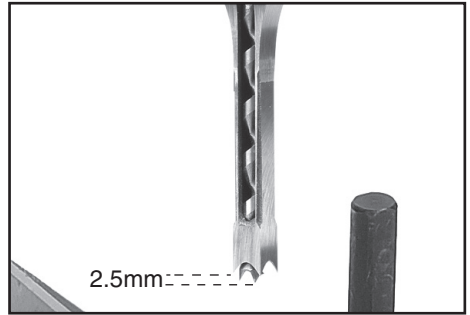

FIG. 11
**Note:** It is important the bottom point of the bit protrudes 2.5mm below the bottom edge of the chisel (Fig.11).